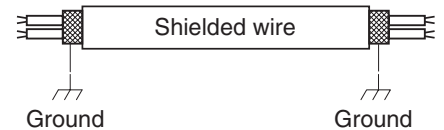

Fig. 2-5
(5) Use shielded wires for inter-unit control wiring (c) and ground the shield on both sides, otherwise misoperation from noise may occur. (Fig. 2-5)